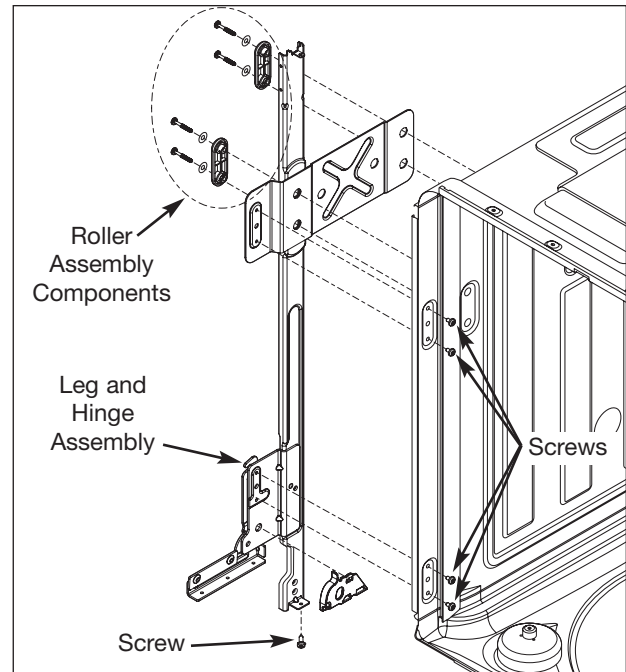

Figure 5-28. Leg and Hinge Assembly Removal
8. Using a #20 Torx bit, extract the four screws from each interior sidewall that secure the leg and hinge assembly to the exterior of the unit frame. (See Figure 5-28)